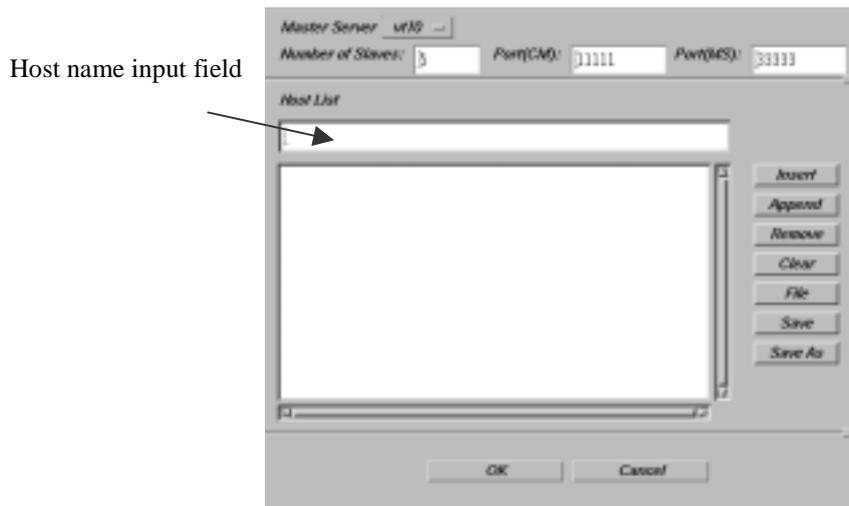

Fig. 6-4. Server Module Setup Dialog
1. Select the command **Initialize** in the menu **Server** of the main window. The dialog box of Server module setup will appear (Fig. 6-4).